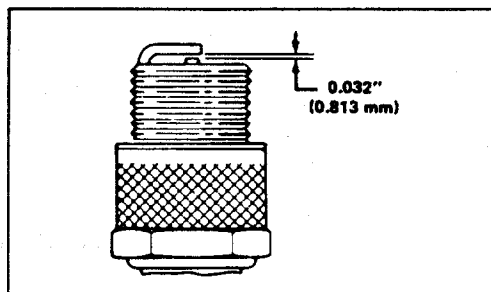

Figure 17
3. Set air gap at 0.032" (0.813 mm) (Fig. 17). Install correctly gapped spark plug and gasket seal. Tighten plug firmly to 15 ft-lb (20.4 N-m).